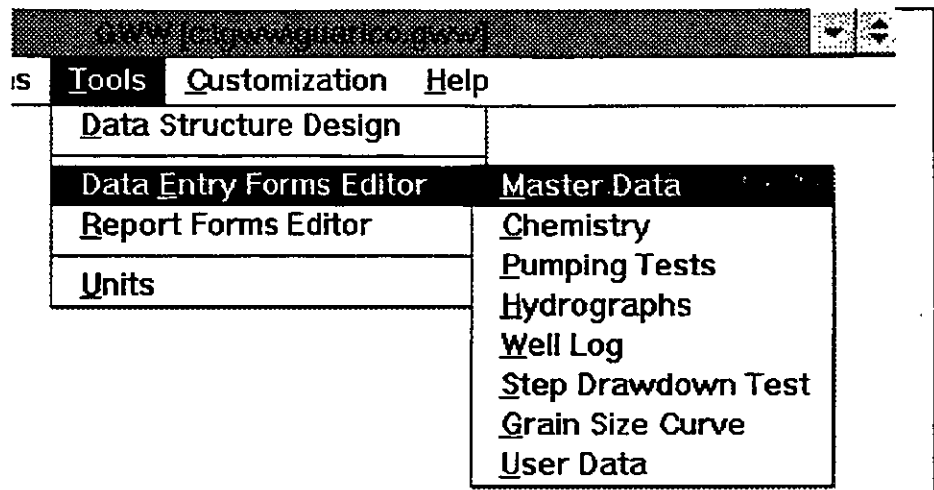

Figure 18-6
2. Select **Data Entry Forms Editor**. Notice the last row, User Data, Figure 18-6.